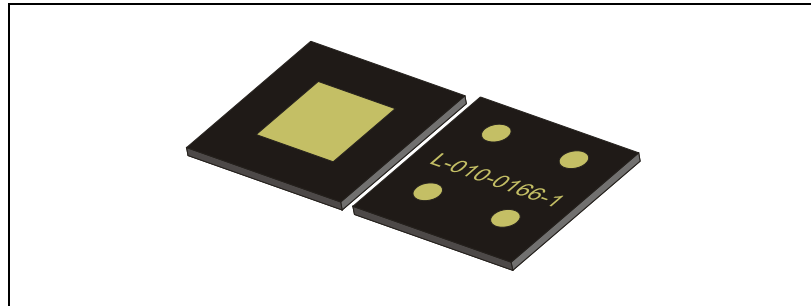

Figure 4-4. Calibration component (L-010-0166-1 HCOB ED-1)
- Calibration component (L-010-0166-1 HCOB ED-1), see Figure 4-4.